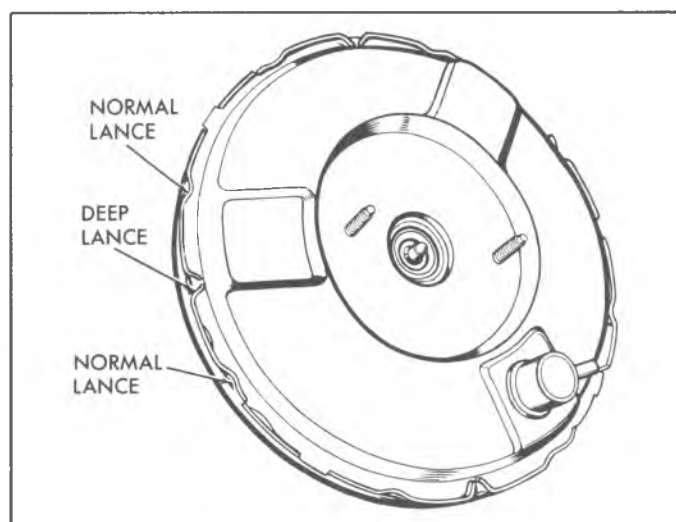

Fig. 3C--Lances in Rear Housing
8. The edge of the rear housing contains twelve lances. Four of these lances (one in each quadrant) are deeper than the other lances (fig. 3C). The metal that forms the four deep lances must be partially straightened so that the lances will clear the cutouts in the front housing. If the metal tabs that form the deep lances crack or break during straightening, the housing must be replaced.